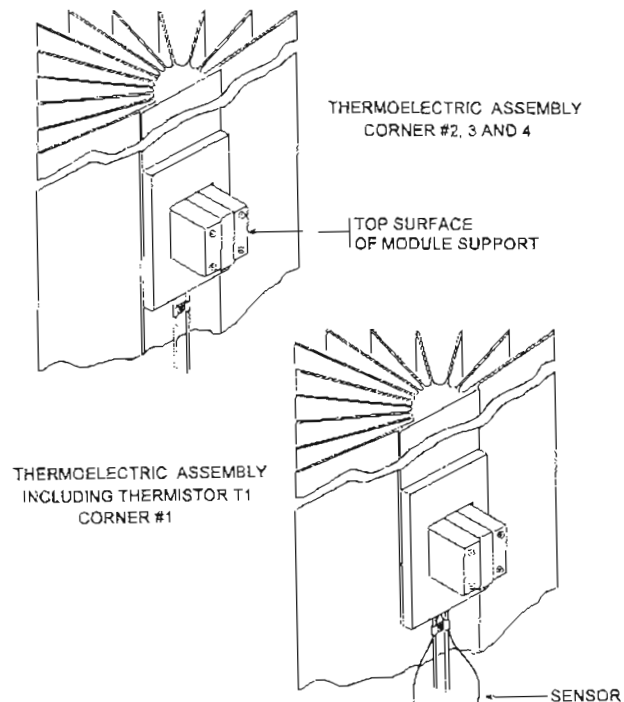

Figure 3-20. Thermoelectric assembly.
(1) Thoroughly wipe clean the top surface of the module support (fig 3-20) and the mounting surface in
- (1) Drill out 10 pop rivets, securing the front left corner cover (#1) to the unit. Use a 1/8 inch drill. Remove corner cover.
- (2) Remove 4 screws securing the thermoelectric assembly #1 from the inside of the cooling compartment.
- (3) Remove the thermoelectric assembly from the unit.
- (4) Thoroughly wipe clean the top surface of the module support (fig 3-20) and the mounting surface in the corner mounting surface.
- (5) Apply a thin, uniform film of thermal compound to the top surface of the module support and to the mounting surface.
- (6) Thread the thermoelectric assembly red and black lead wires with the thermistor wires through the insulating foam, into the control panel cavity.
- (7) Position the thermoelectric assembly in the mounting cavity, and tighten four screws from the inside of the cooling compartment.
- (8) Splice the thermoelectric assembly's leads, and apply tape over the connections.
- (9) Secure the corner cover with 1/8 inch pop rivets.
- (10) Reconnect 1 and 4 wires to TB1, and the T1 wires to TB2.
- (11) Secure the control panel with 10 screws to the unit.